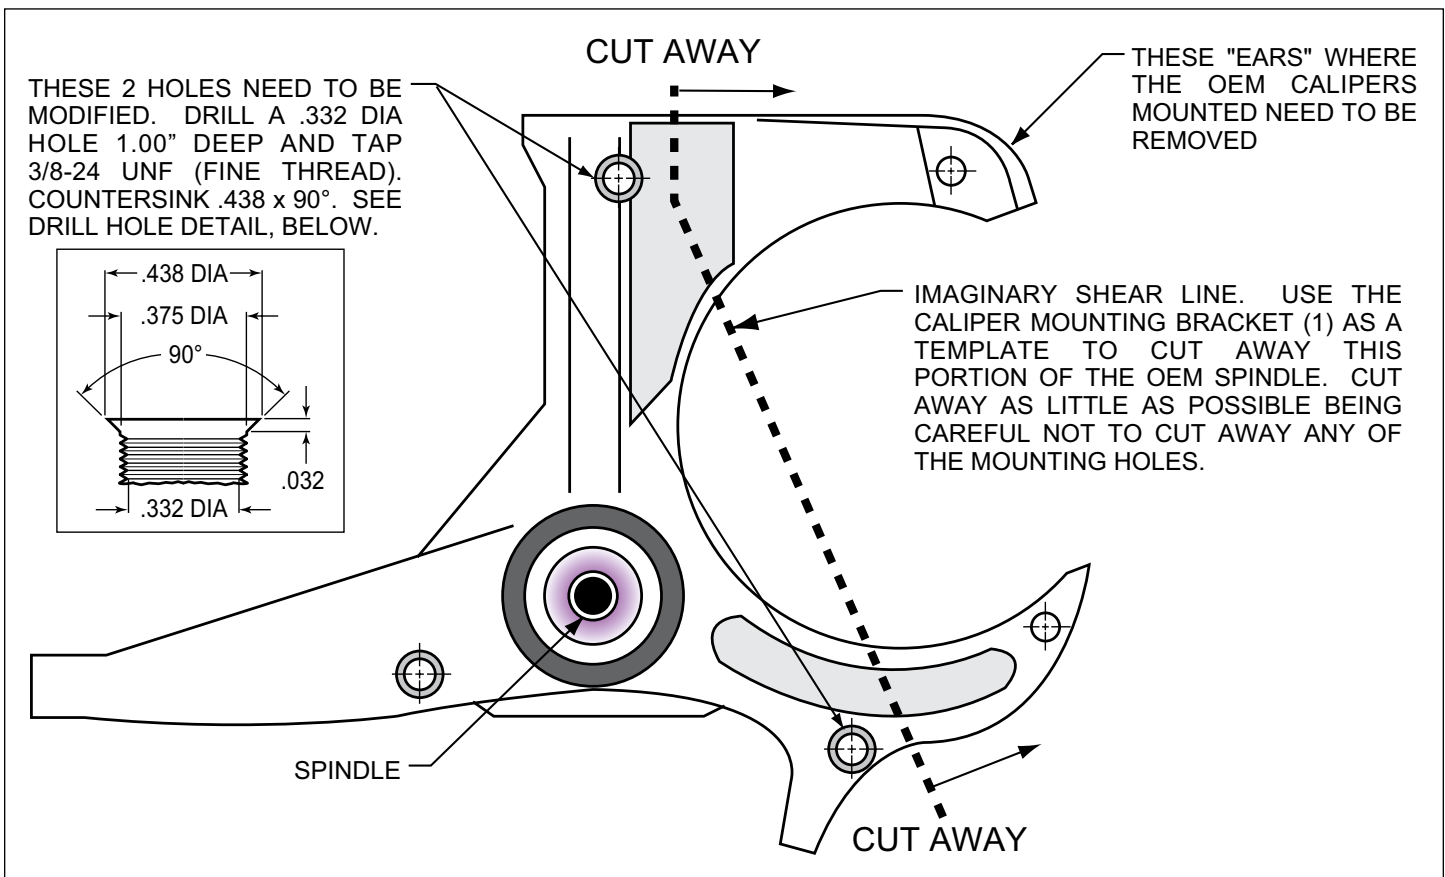

Figure 1. Steering Arm / Spindle Modifications
NOTE: These modifications should be performed by a qualified machinist and completed before assembly of the Wilwood disc brake kit begins. Refer to Figure 1 as necessary (numbers in parenthesis refer to the parts list). Only one view of the steering arm/spindle is shown, but the modifications need to be performed on both steering arm/spindles.
The two OEM holes that will be used to mount the caliper mounting bracket (1) need to be modified. Drill a .332 diameter hole through both holes, Figure 1, then tap 3/8-24 UNF (fine thread). Countersink the holes to .438 x 90°. The "ears" that protrude to form a "C" shape need to be removed to facilitate the installation of the Wilwood kit. Using the bracket as a template, mark two cut marks on the steering arm. Remove as little as necessary from the "C" shape, being careful not to cut away any of the mounting holes required to bolt on the bracket.
•**NOTE:** Numbers in parenthesis refer to the parts list on the preceding page and Figure 1.